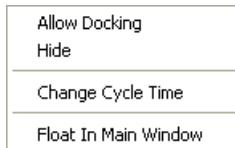

Figure 4.14 Simulation Summary Window WESTRACE right-click menu
- Right-click the WESTRACE name in the Simulation Summary Window (section 3.4) to open the pop-up menu (figure 4.14).